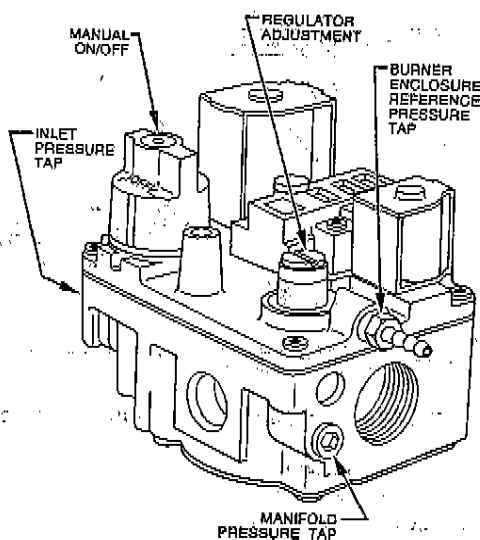
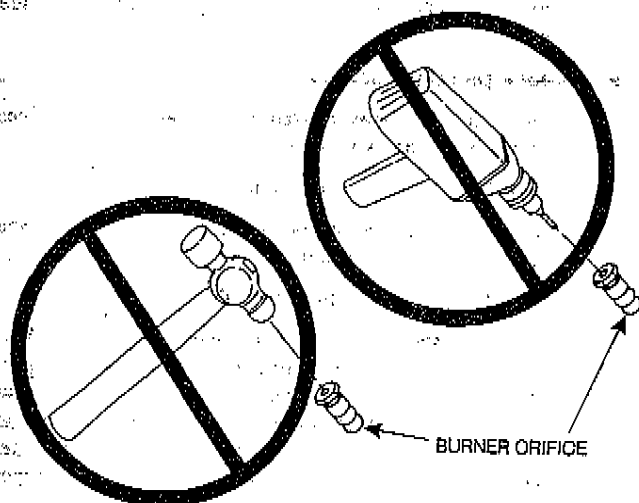

Fig. 45-Redundant Automatic Gas Valve
Fig. 46-Burner Flame
- Remove burner enclosure front and cap that conceals adjustment screw for gas valve regulator. (See Fig. 45.)
- Replace burner enclosure front and measure adjusted gas input rate using method outlined in item 2.
- Look through sight glass in burner enclosure and check burner flame. Burner flame should be clear blue, almost transparent. (See Fig. 46.)